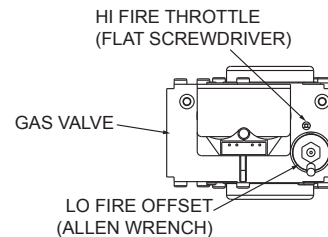

Figure 50. Setting Hi Fire Throttle / LO Fire Offset
Valve adjustment throttle locations are indicated on Figure 50.
Adjust Hi Fire Throttle to get within the combustion range required. See Figure 50.
3. Using an Allen wrench turn the Offset slightly clockwise to increase CO₂ values. See Figure 50.